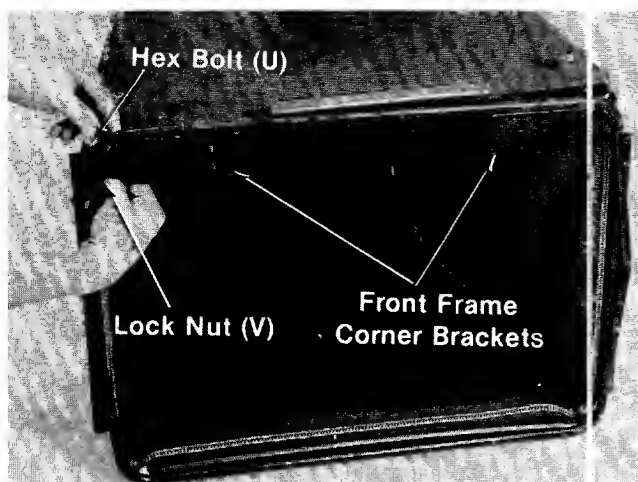

FIGURE 15.
3. Bolt the front frame assembly (corner brackets to the top) to the side frames with four hex bolts (U) and hex lock nuts (V). See figure 15.